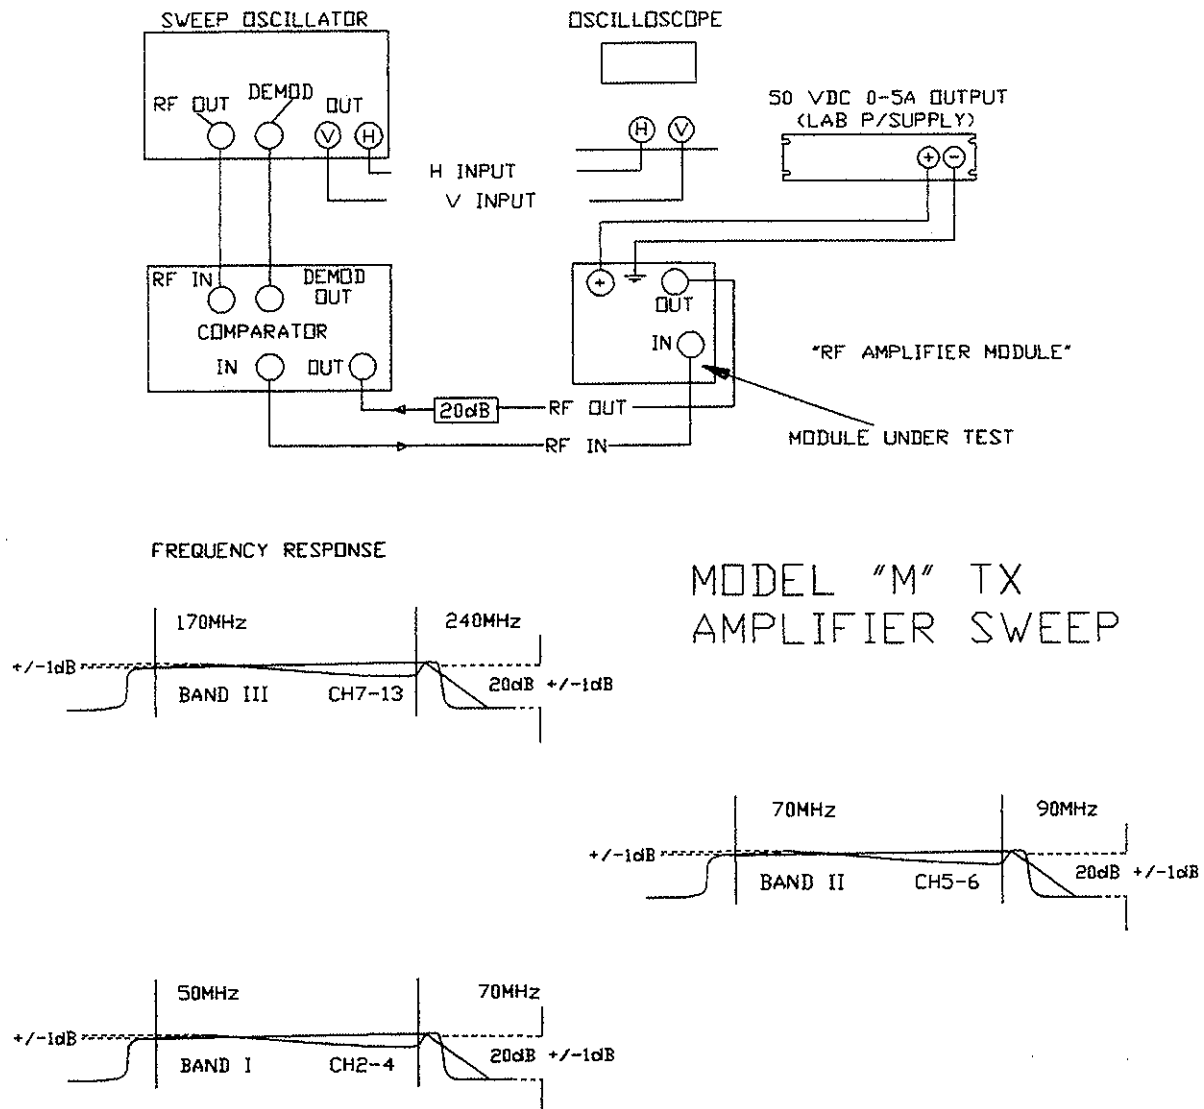

Figure 1: Module Sweep Set-up.
3. Connect the module to a sweep system, typically as shown in Figure 1. The sweep generator should be adjusted to give a linear sweep from about 45 to 75 MHz, or from 65 to 95 MHz, to sweep the part of Low Band that the module is intended for, with a small amount of out-of-band signal on both ends. Ensure that a coaxial 20 dB attenuator pad is connected to the RF output of the amplifier, in order to prevent possible damage to the sweep comparator.
The swept in-band frequency response, for Low Band modules, should be essentially flat within  $\pm 1$  dB as shown in Figure 1, with gain approximately  $21 \pm 2$  dB. (High Band modules have lower gain due to the RF device characteristics. Low Band sweep curves are usually  $> 20$  dB gain.)